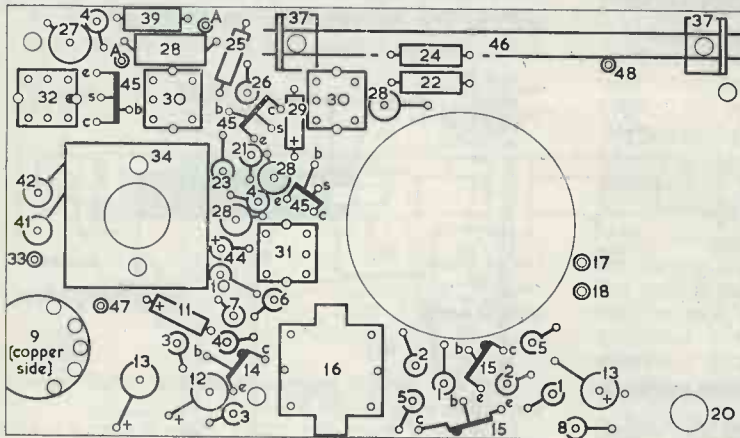

Fig. 3. Legend side of the printed circuit board
The printed circuit board has a legend on one side which clearly indicates the positions of all the components. The volume control is already fitted to the board as it is thought that some constructors may find this operation somewhat difficult. Fig. 2 shows the methods of fitting both capacitors and resistors to the printed circuit board. All components should be inserted through the board from the legend side, the wire lead-outs being trimmed and soldered on the copper side. Fig. 3 shows the legend side of the board, on which each number corresponds to a particular item in the process of construction.
In Fig. 3 it will be noted that some designations appear more than once, for example, Item 1 is shown twice. This means that Item 1 requires two 4.7Ω resistors to be fitted, one each in the positions indicated.
Item 13. Obtain two $64\mu F$ 10V capacitors and mount vertically, noting very carefully the polarity markings on the board. One has the sign + within the circle whilst the other marking indicates that the capacitor should be mounted in the reverse manner. (See Fig. 3.)
- Item 26. Mount the single 56kΩ resistor vertically (see Fig. 3).
Item 41. Solder into position the 165pF capacitor. (See Figs. 3 and 6.)